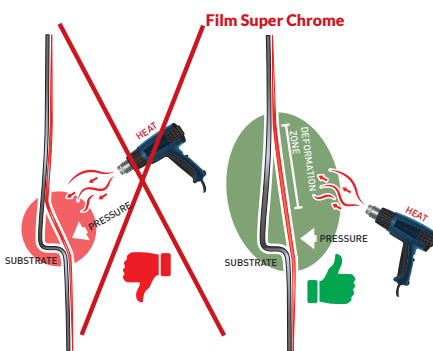

Figure 08
- ▶ Stretch the vinyl over the substrate so that it touches the peaks only. (FIG. 08)